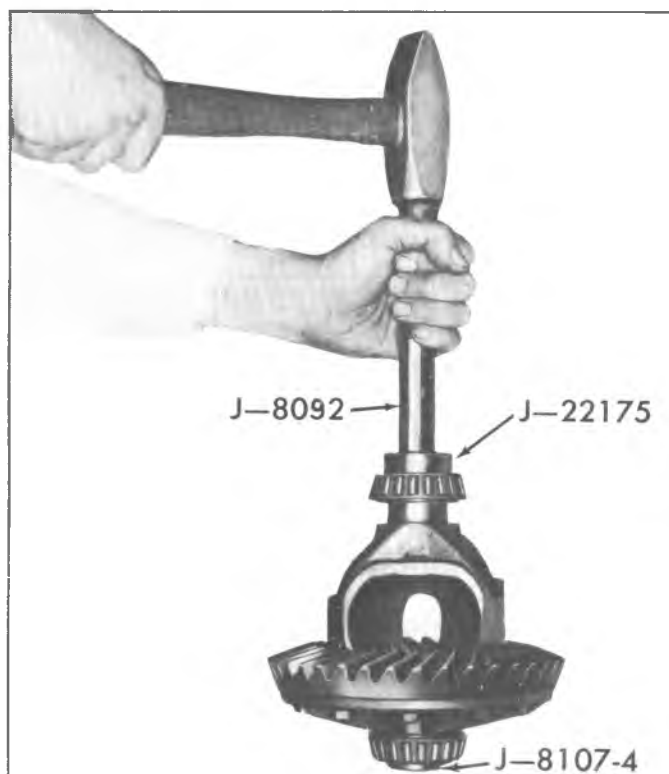

Fig. 4C--Differential Bearing Installation
1. Install new bearing on hub using Installer J-22175. See figure 4C.
differential case on Adapter Plug J-8107-4. This allows differential case to rest on plug instead of bearing cage. See figure 4C. Install remaining bearing.